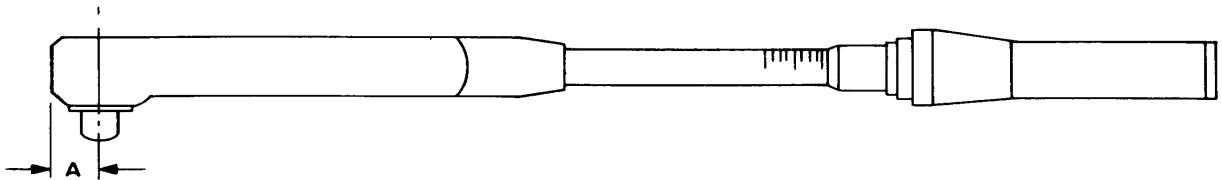

Figure 8. Type III, class 1 torque wrench, rigid case, micrometer-style torque presetting, audible signal, plain head.
**Torque Wrench, Audible Signal, Micrometer Preset:** (figures 8 and 9). These two classes of torque wrenches differ only in that one contains a ratchet mechanism enclosed in the drive head. The ratchet is a reversible mechanism and operates by manual movement of a lever. Gradually apply perpendicular force on handle of TI until audible signal (snap) is heard. Stop applying force at this point.